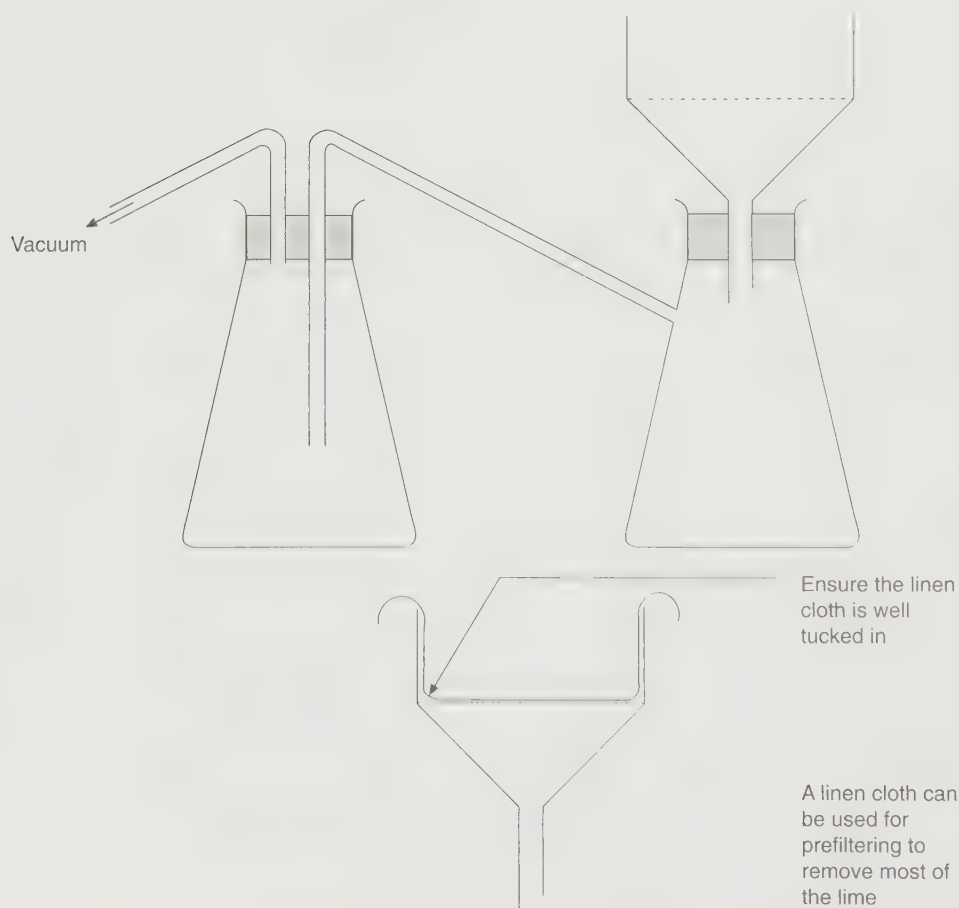

Figure 3 Apparatus for vacuum filtration
- Apparatus for vacuum filtration (see Figure 3)
- At pH 11.2, filter the extract under vacuum (see Figure 3). You may need to pre-filter through a piece of linen. Use coarse filter paper.